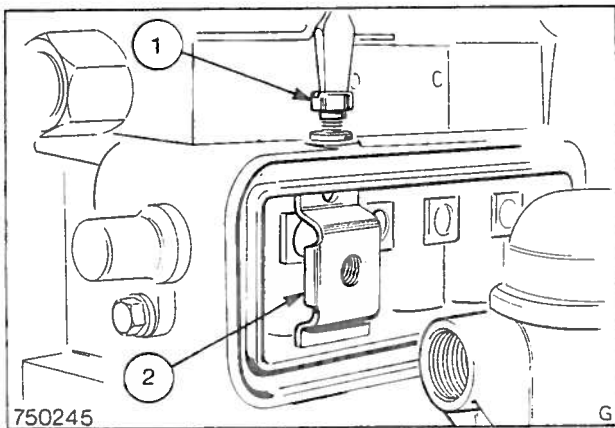

Fig. 32 Removing the inspection cover and
1. Remove the inspection cover and retainer plates if fitted, Fig. 32.